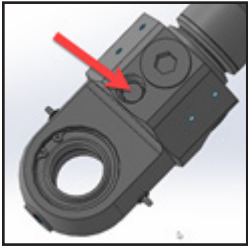

Figure 3
- a. If there is a significant amount of oil in the drain pan, switch the relief in the current cylinder with the relief in the cylinder not being tested and restart step 11 to determine if the relief has failed (Figure 3).